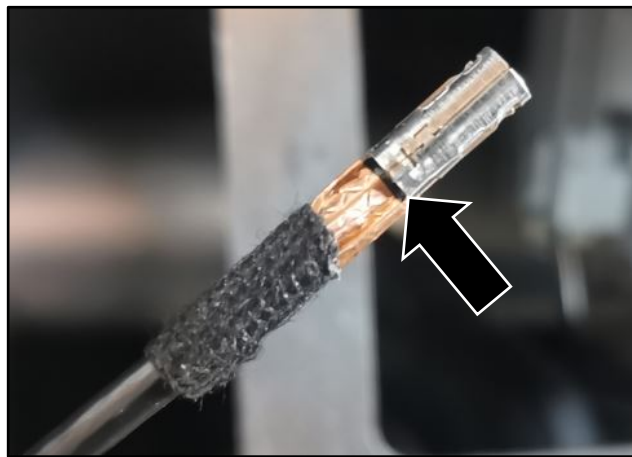

Figure 7
9. This image shows copper tape, that has ***not*** been applied correctly (refer to Figure 7).